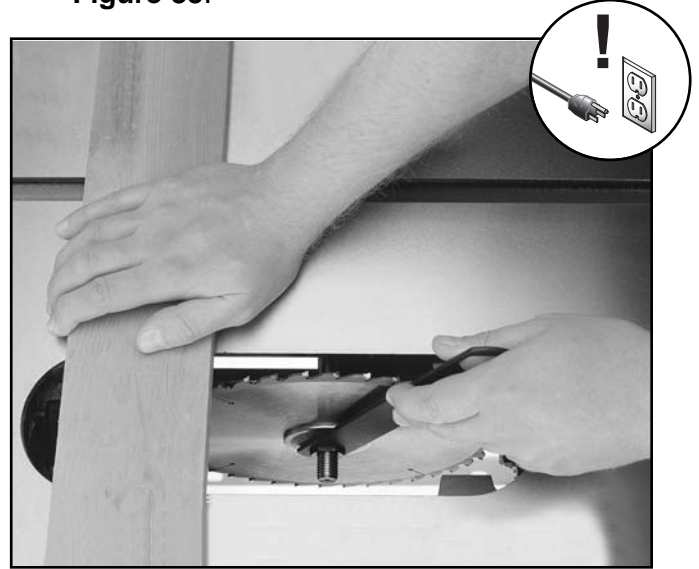

Figure 35. Changing saw blade.
5. Use the arbor wrench provided with the saw to tighten the arbor nut. Wedge a block of wood in the teeth of the blade to keep it from turning when tightening the nut as shown in **Figure 35**.